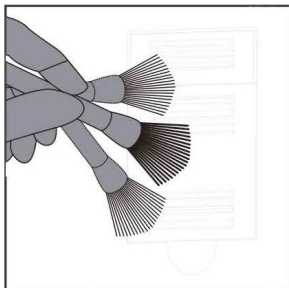

Fig. 8
1. Clean the air purifier housing (8) and the front panel (1) with a clean, soft and dry cloth. You may use it with a little of water; if so, wipe the air purifier dry afterwards. Use neutral/gentle domestic detergents to remove persistent grime. Thoroughly clean the air filter chamber and the air vents.
2. Gently vacuum the prefilter (2) and then wash it with lukewarm water and dry. If mechanical damage is found replace the prefilter.
3. The HEPA filter (3) and carbon filter (4) can be cleaned with a brush with a very gentle bristle. Be very careful so as not to damage the filters. Do not submerge the filters in water, clean them without any liquids. The air purifier is equipped with the filter replacement indicator. It is indicated by the pulsating air purifier switch LED (6m). Reset the indicator when the filters are replaced pressing and holding the "Reset" button (6e) for at least 5 seconds. However, the filters should be replaced at least every 12 months even if the air purifier does not indicate that they must be replaced.
4. The photocatalytic filter (5) should be replaced every 3 years. However, you should regularly expose it to sunlight (at least 2 hours). It will ensure it is fully operational.
- remove dust from the sensor access panel (12) with a gentle brush (fig. 8)